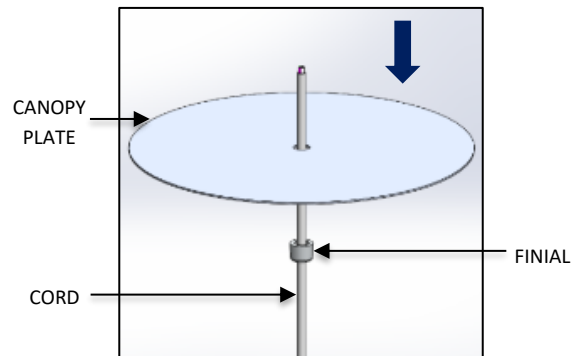

FIG. 17 – CANOPY PLATE
12. Pass the FINIAL and the CANOPY PLATE through the CORD as shown in FIG. 17 below.